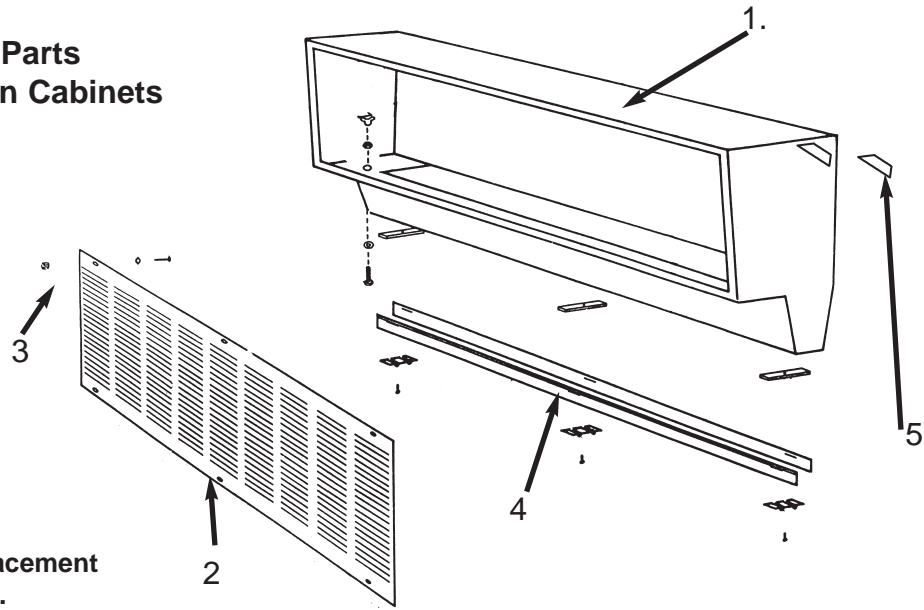

Figure 10 - Replacement Parts Illustration.
3. To replace blower wheel, remove the three slotted hex head screws on outer blower ring assembly (See Figure 10 & 11, Replacement Parts Illustration.) The wheel is held onto shaft by one hex head screws.